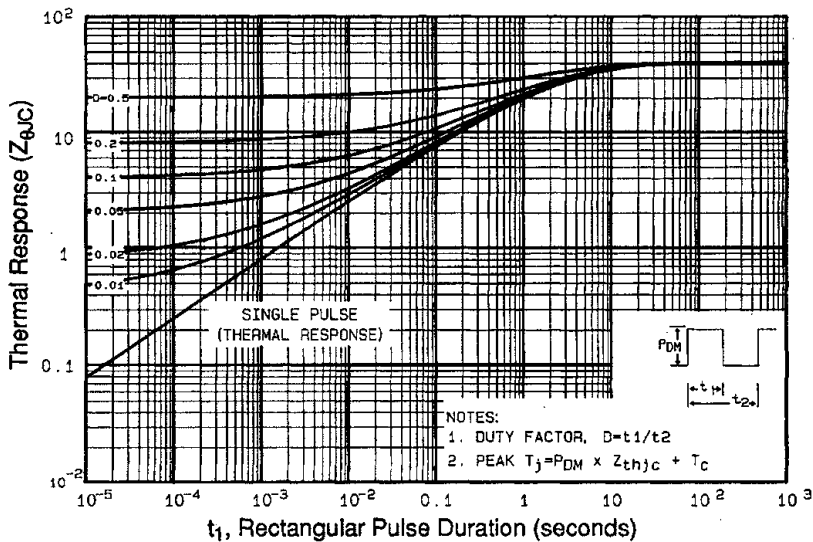

Fig 11. Maximum Effective Transient Thermal Impedance, Junction-to-Case
① Repetitive rating; pulse width limited by max. junction temperature. (See fig. 11)
② $V_{DD} = -25V$, starting $T_J = 25^\circ\text{C}$, $L = 50\text{ mH}$